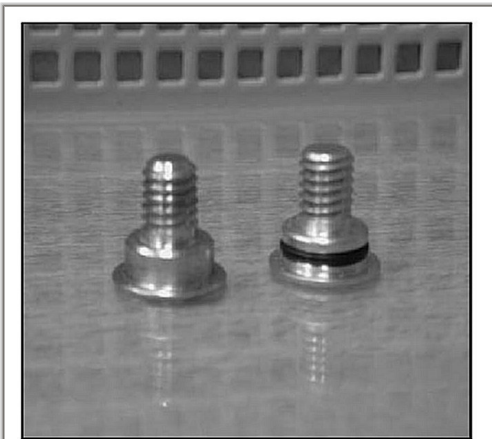

Figure 3
4. Remove original bolt (Figure 3, left bolt) and replace with new bolt with 0-ring (Figure 3, right bolt) on both the door side and tunnel side of the front seat together with a new crimp nut.